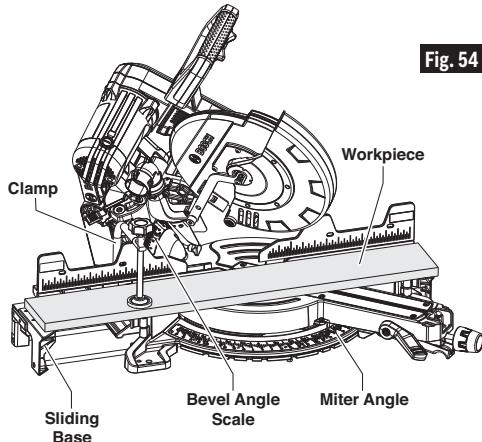

Fig. 54
- Properly position workpiece. Make sure workpiece is clamped firmly against the table or the fence (figure 54).